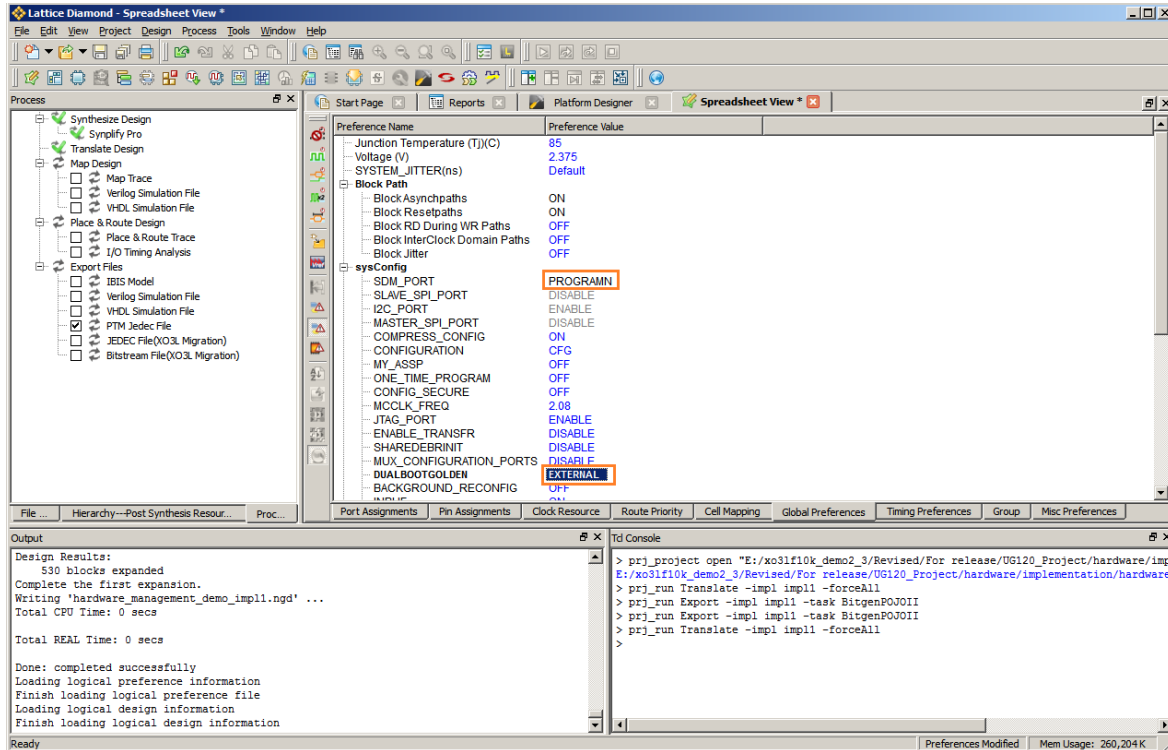

Figure 9.5. Setting Global Preferences for Pin Assignment
- Then click **Pin Assignment** and open Spreadsheet View to set `SDM_PORT` to `PROGRAM`, set `DUALBOOTGOLDEN` to `EXTERNAL` as shown in Figure 9.5.